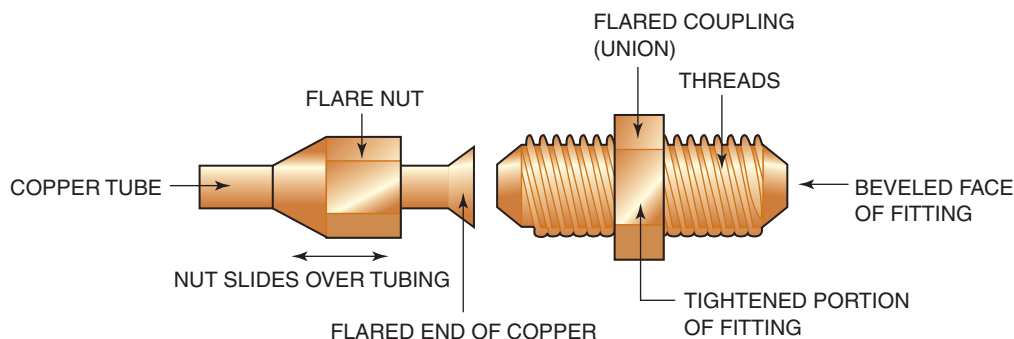

FIGURE 12–40 A flared connection is durable and used for soft copper tubing that is subjected to movement.
Flexible tubing is widely used in the residential plumbing industry to increase productivity and decrease material costs. Many regions of the United States still use copper piping, and commercial water distribution systems primarily use copper piping. Cross-linked polyethylene (PEX) has become the most common flexible tubing for residential water distribution systems. Polyethylene (PE) was used widely for decades to install water service to a house, but other plastic piping such as polyvinyl chloride (PVC) is used more often today. PE is still a popular choice for installing the drop-pipe for a submersible pump in a well. Many residential water distribution systems use a manifold piping design that distributes water individually to each fixture, as opposed to how it has been discussed previously in this chapter. The stub out serving a fixture is usually converted to copper to provide a quality installation, but most codes allow PEX to be used for stub-out purposes. Valves, male adapters, female adapters, washing machine boxes, and icemaker boxes are available that are connected directly to PEX. Most codes dictate that PEX cannot be connected directly to a water heater and that it must be protected against damage from the flue pipe of a gas water heater. The most common pipe conversion near a water heater is to copper. Figure 12–41 illustrates a PEX-crimped piping system being converted to copper for a water heater connection. A PEX piping system utilizing an expander tool would be connected with a copper fitting specific to that style of PEX connection and similar to Figure 12–41(B).